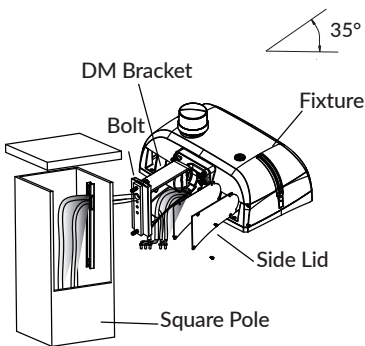

Figure 4-4
- Secure the PMB bracket to the square pole using the Fixing Bolts, guide the wire into the junction box, and wire it according to the "General Wiring Diagram". Place the connected wires inside the junction box and close the box securely (Figure 4-4).